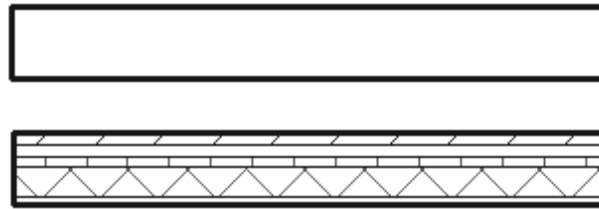

Figure 7–68
4. Some walls are made from multiple layers of materials, such as brick, block, and drywall, as shown on the bottom in Figure 7–68. If the hatching for these materials is not displayed (as shown at the top in Figure 7–68), how do you change this?